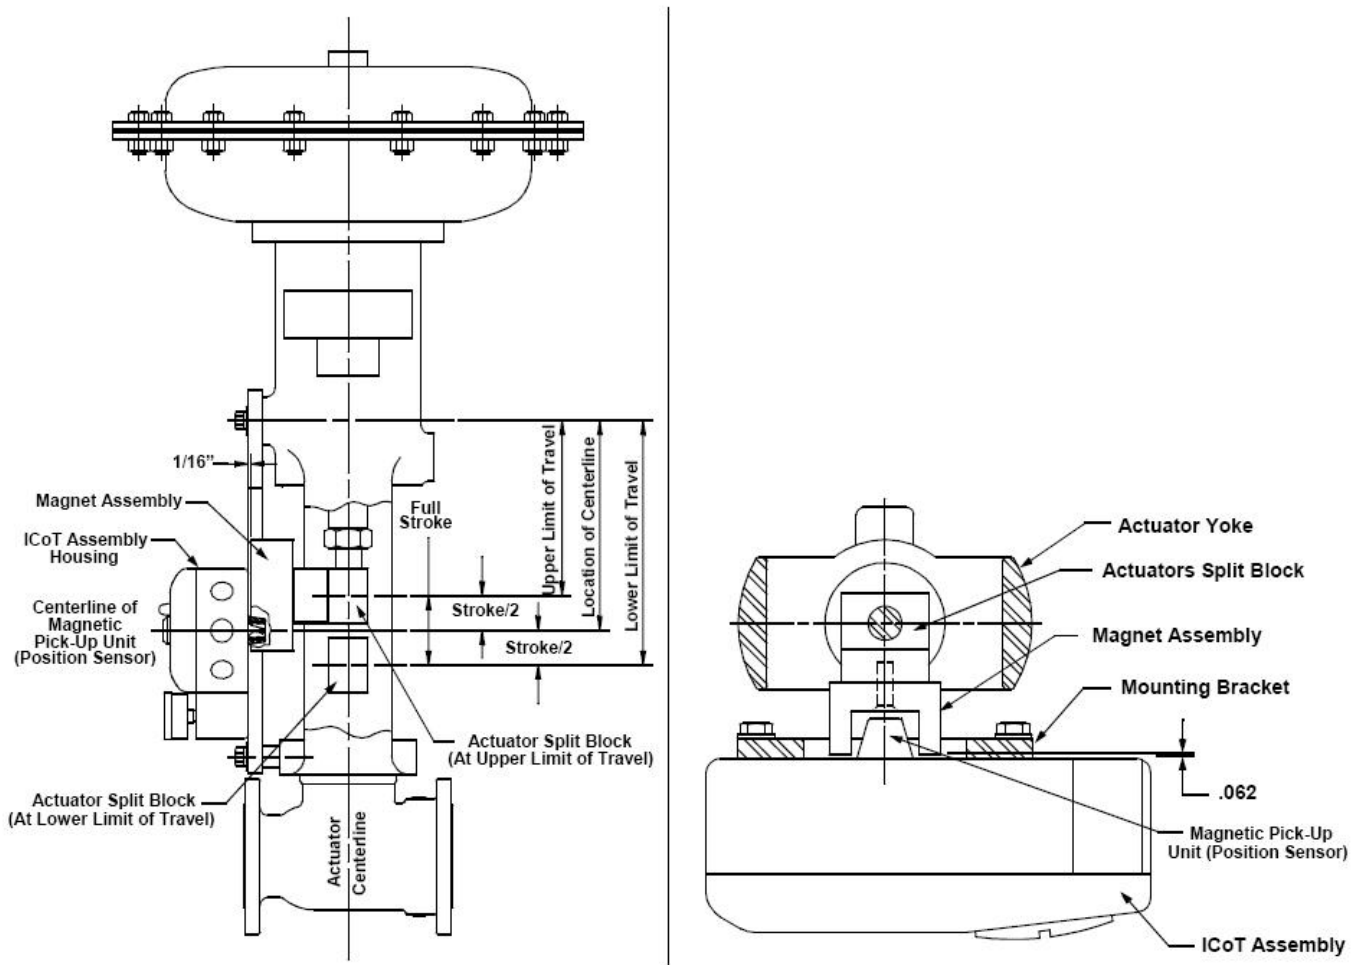

Figure 3-7
Step 3. Mount the positioner to the mounting bracket. The positioner should be mounted so the magnetic pick-up unit of the positioner is centered between the limits of the magnetic assembly's stroke. After mounting the positioner, the magnet assembly should be within 1/8" from the back of the positioner (1/16" is ideal), (See Figure 3-7)